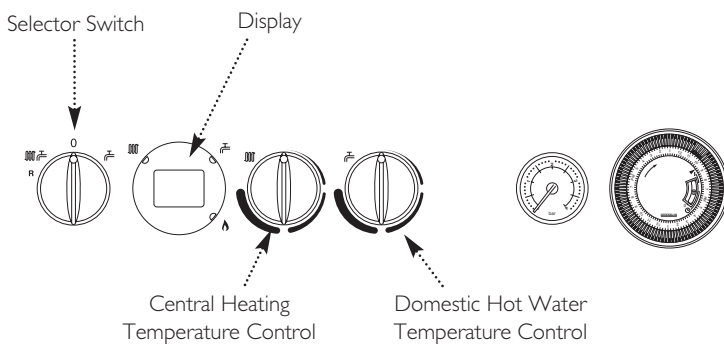

Fig. 34
6. The display will now alternate between 'SF' and the current boiler temperature and both green LEDs will flash (Figs. 34 & 35).